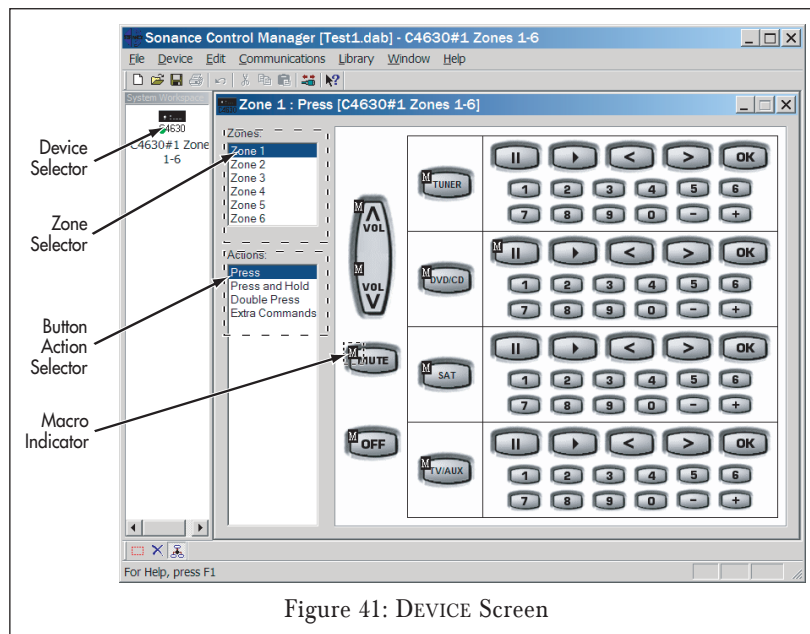
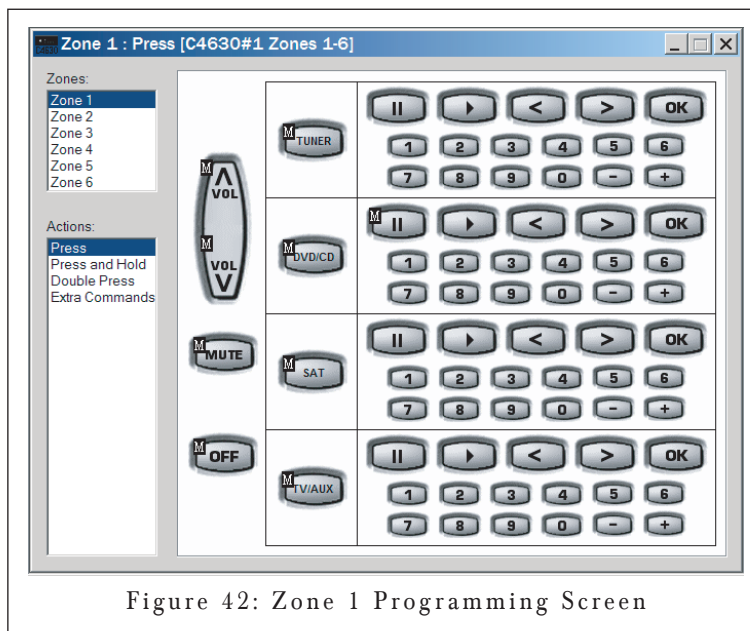

Figure 41: DEVICE Screen
Figure 42: Zone 1 Programming Screen
Device Screen (Figure 41)
1. Open the DEVICE screen (see *Figure 41*, on page 31).
2. If the system has more than one C4630 SE, use the DEVICE SELECTOR (see *Figure 41*) to select the one you want to program. The Zone 1 programming screen for that C4630 SE will appear (see *Figure 42*).
1. Open the system and select the C4630 SE. the Zone Programming Screen (Figure 42, on page 32) will appear.